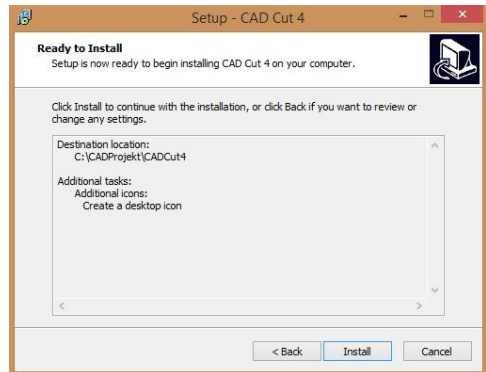

Fig. 13 – installation wizard ready to launch the installation process
- To launch it, click **'Install'** (Fig. 13).